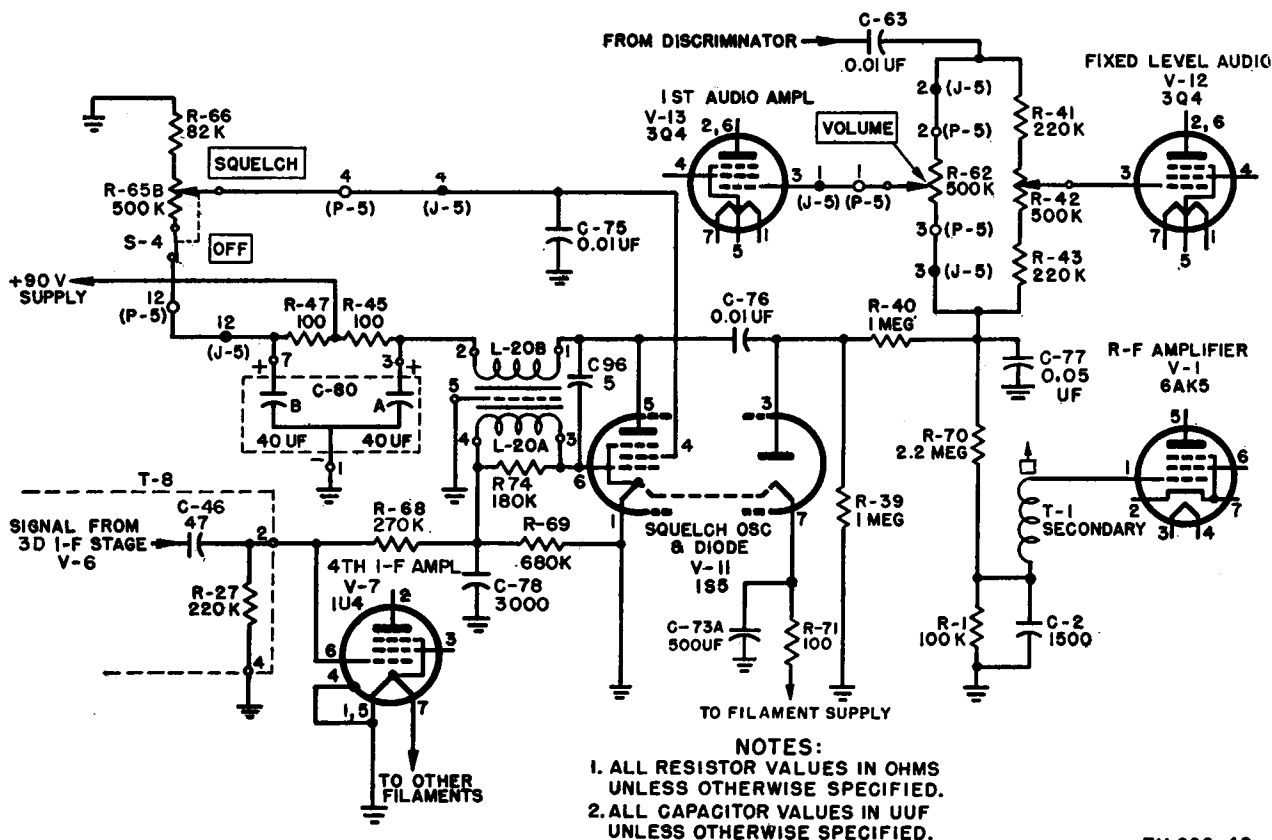

Figure 19. Squelch circuit, functional diagram.
28. Squelch Circuit V-11 (fig. 19)